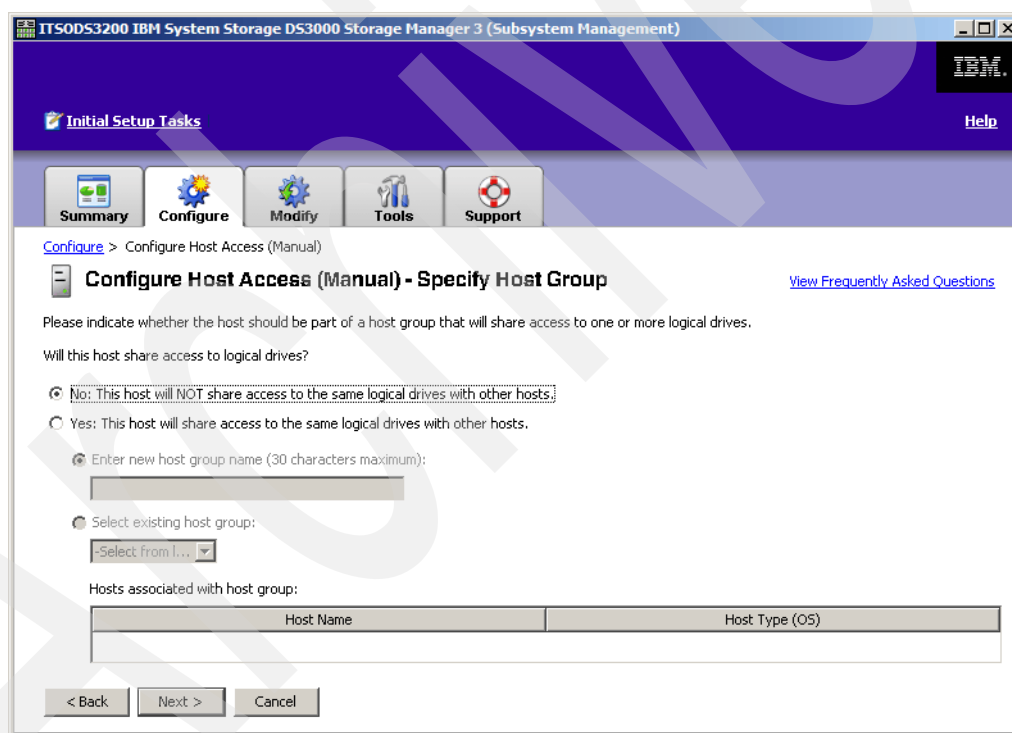

Figure 20-29 Logical Drive shared access
- Select the **No: This Host will NOT share access to the same logical drives with other hosts** radio button and click **Next**, as shown in Figure 20-29.